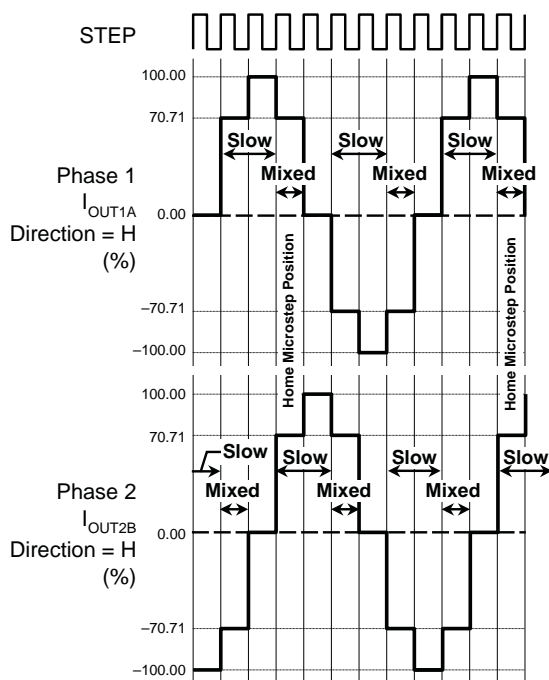

Figure 3. Decay Modes for Half-Step Increments
**Mixed Decay Operation.** The bridge can operate in Mixed Decay mode, depending on the step sequence, as shown in figures 3 through 6. As the trip point is reached, the A4983 initially goes into a fast decay mode for 31.25% of the off-time,  $t_{OFF}$ . After that, it switches to Slow Decay mode for the remainder of  $t_{OFF}$ . A timing diagram for this feature appears on the next page.